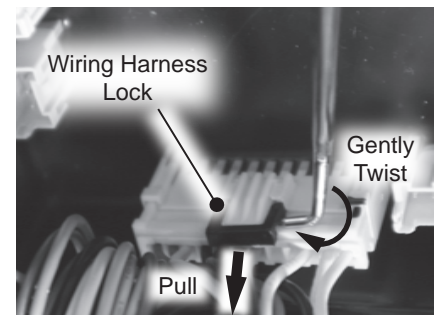

Figure 37 - Black harness lock removal
**NOTICE:** On connection points A1 & A4, use an O-ring pick to apply pressure to the point shown in Figure 37 while pulling the harness from the board. Remove "locks" and place aside in a safe place for reinstallation.